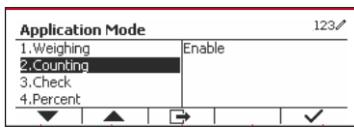

Figure 54
3. In the Application Mode menu, enter the Counting submenu. (See Figure 54)